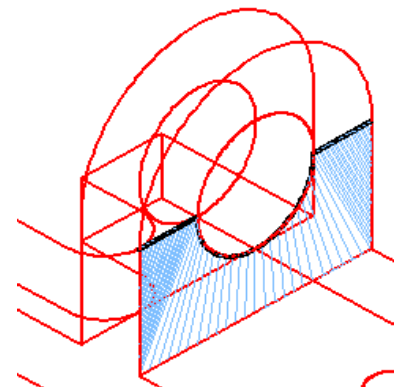

Figure Step 20
Step 20 On layer Surface, insert the rule surfaces as shown in Figure Step 20.